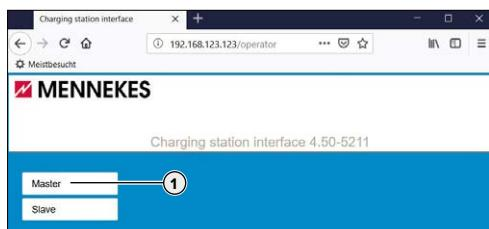

Bild 21: Valsida: Master – Slave
- ➔ "Bild 21: Valsida: Master – Slave"